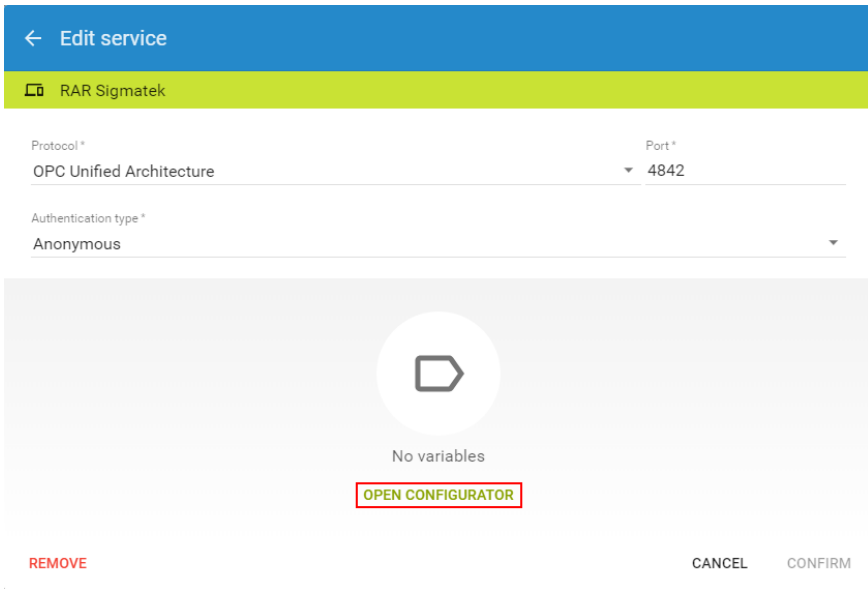

Figure 5.65 The “Open Configurator” button provides access to edit the variables.
- c. Click on "OPEN CONFIGURATOR" (Figure 5.65).